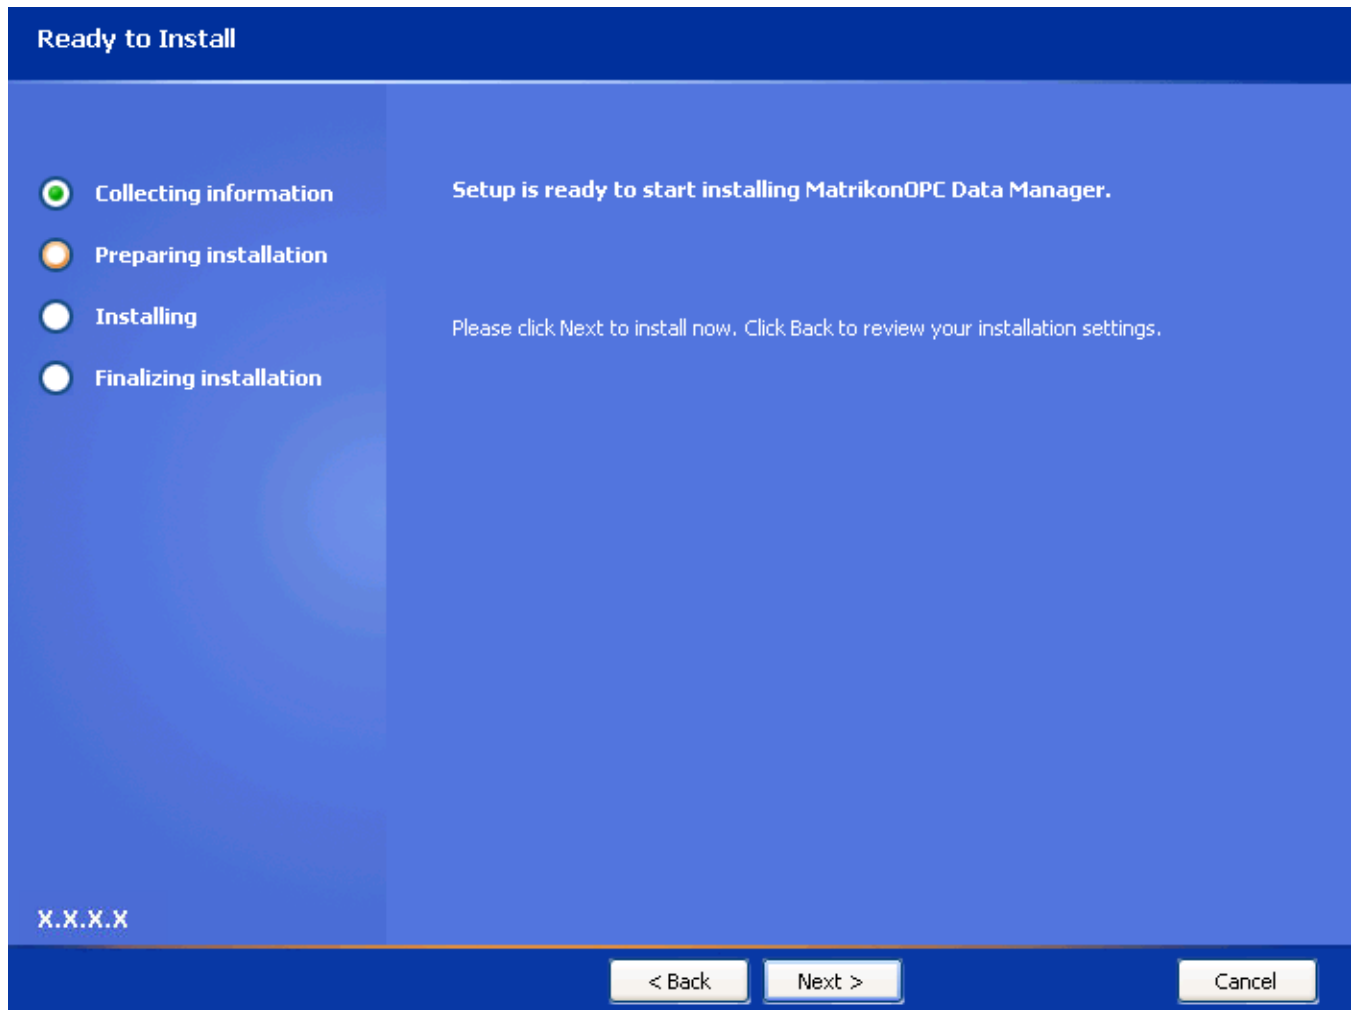

Figure 11 - Ready to Install Screen
16. Click on the **Next** button. The **Ready to Install** screen (Figure 11) appears.